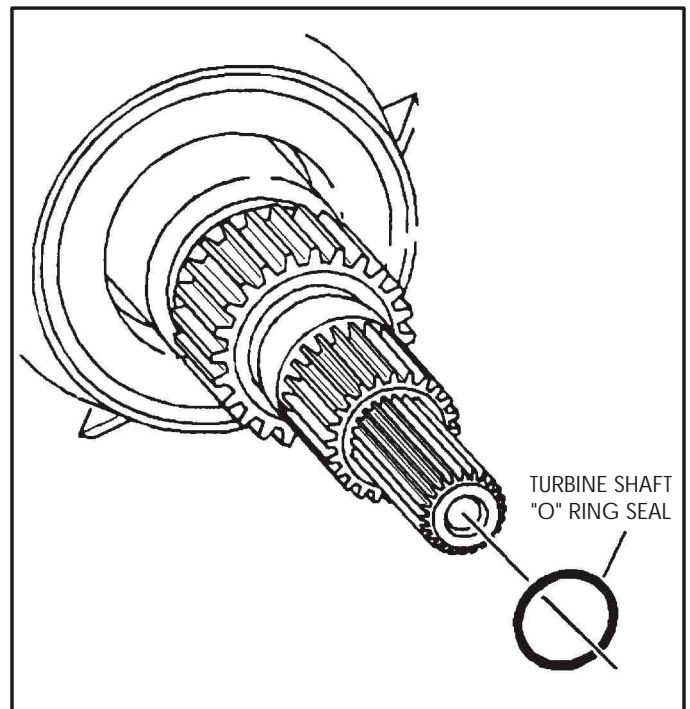

Figure 209
34. Install new "O" ring seal into the groove in the turbine shaft and lubricate with transmission fluid, as shown in Figure 209.